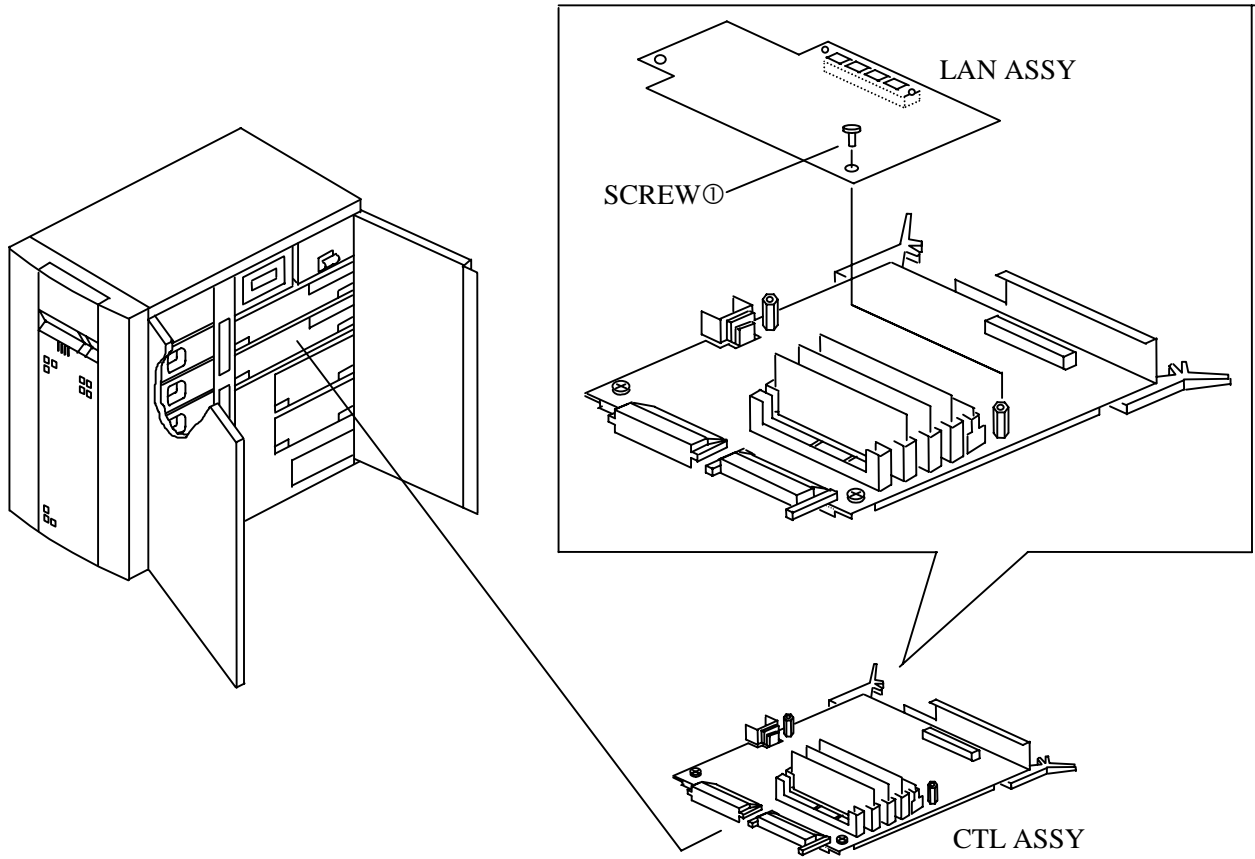

Figure 5.4.4 Installing a LAN ASSY
- (3) Install a LAN ASSY. ( See Figure 5.4.4 in Sheet No. 66.)
- (4) Mount the CTL ASSY.
- (5) Set the DIP Switch as described below.
- (6) Turn on the power according to the power-on procedure in 5.3 (2).
- (7) Open the front cover.
- (8) Set LAN configuration parameters of EEPROM according to the next page.
- (9) Insert “BACK UP FD” into FDD and hit “0” key to make backup copy of EEPROM parameters.